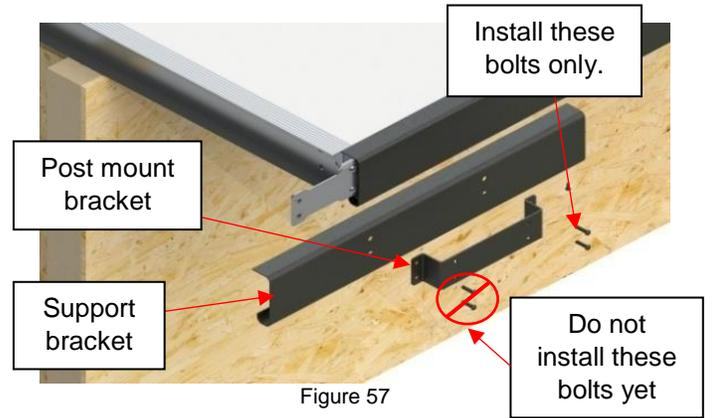

Figure 57
13) Align the holes of the support bracket, the post mount bracket and the C-channel by hand. Assemble them with the 1/4-20 x 1" hex drive rounded head screws (5/32" (4 mm) drive). **DO NOT** install the bolts on the other end of the brackets yet (Figure 57).